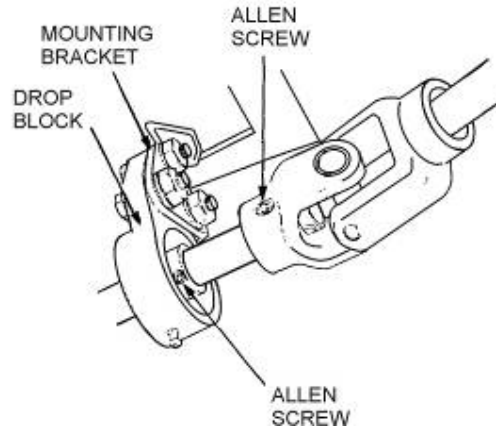

Figure 202 Drop Block Installation
- g. Position the drop block on the mounting bracket and install the three bolts and new lock-washers (Figure 202).